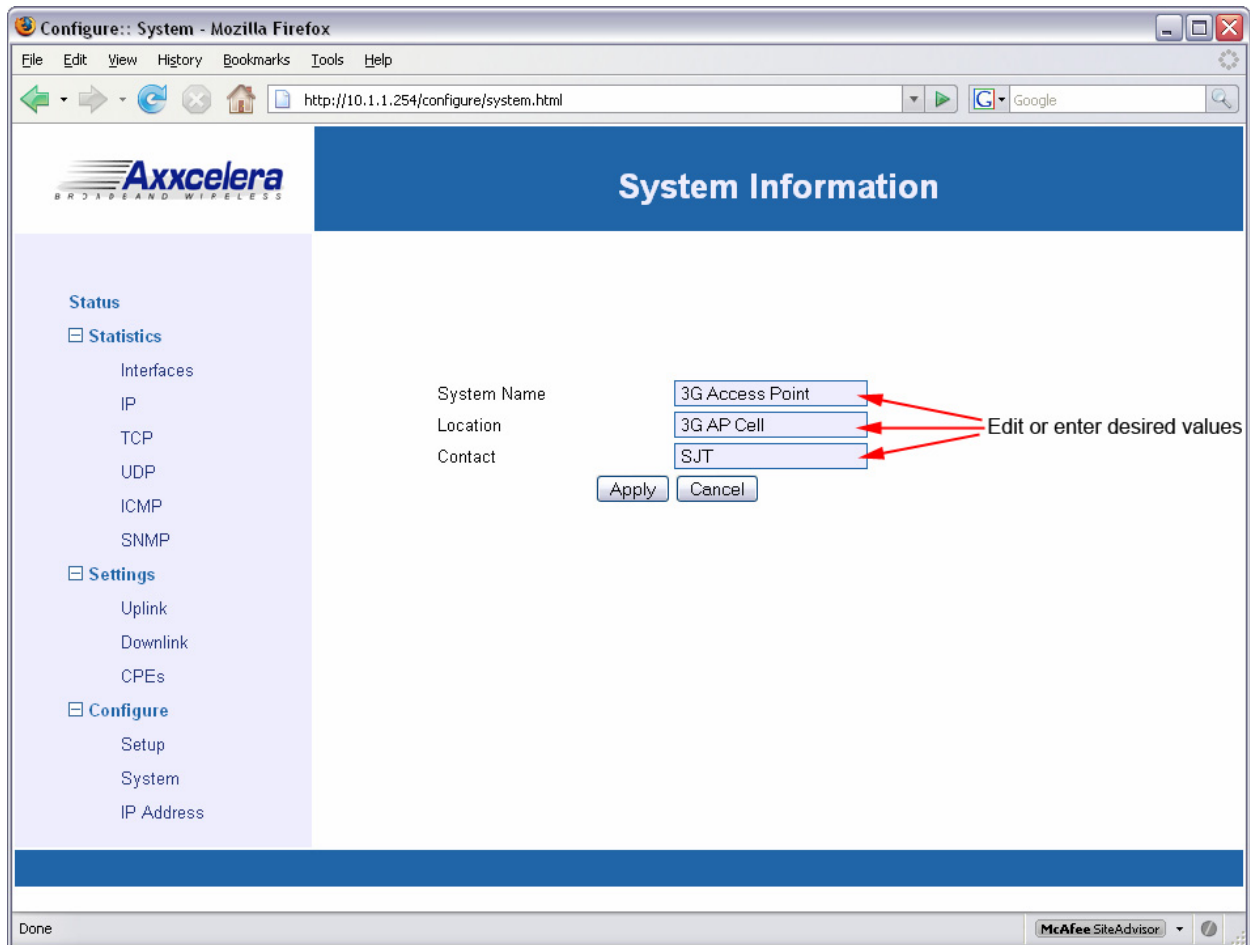

Figure 4-4: Configuring System Information Settings
- 2) When the **System Information** screen (Figure 4-4:) appears, enter the System Name, Location, and Contact information in the appropriate fields.